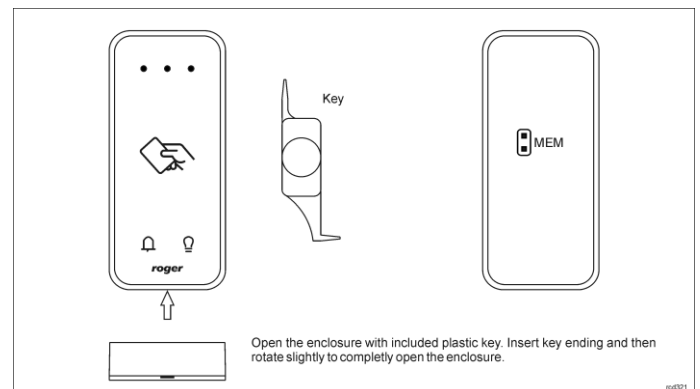

Fig. 2 Enclosure opening and location of service contact
Note: Remote configuration of device from VISO v2 software is possible only if jumper is placed on MEM contacts (fig. 2). If the jumper is removed then such configuration is blocked. In case of factory new device, jumper is placed on MEM contacts.
In RACS 5 v2 system the reader can be installed at site without previous configuration. According to AN006 application note, its address and other settings can be configured from VISO v2 management software and during such configuration the access to its service contacts (fig. 2) is not required.
2. Remove jumper from MEM contacts (fig. 2) if it is placed there.
2. Place jumper on MEM contacts (fig. 2).